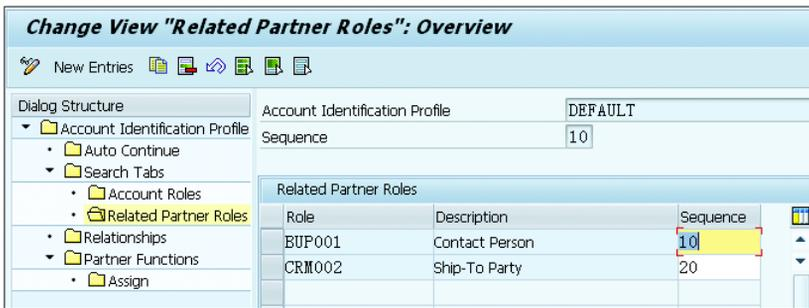

Figure 9.21 Related Partner Roles
7. Figure 9.21 shows the RELATED PARTNER ROLES configuration. The RELATED PARTNER ROLES field on the ACCOUNT IDENTIFICATION screen comes with this configuration.